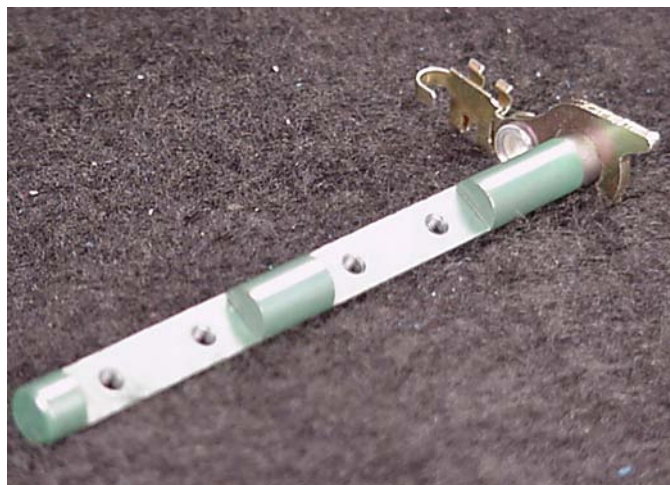

Fig. 128
2. Inspect throttle shaft and choke shaft for wear, Fig. 128. Make sure bushing hole is circular and there is no wear. Replace if worn.